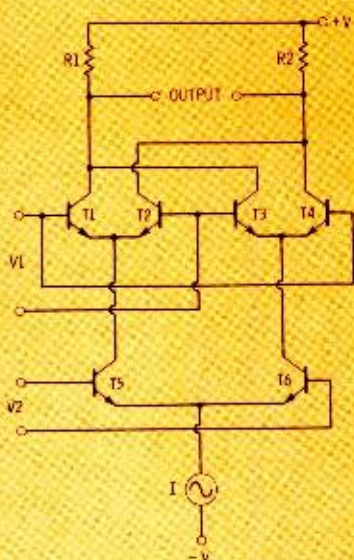

Fig. 1 A doubly balanced modulator.
To illustrate this let me describe two examples. The first one is the doubly-balanced modulator, illustrated in Figure 1. A current source (I) feeds the emitters of transistors T_5 and T_6 . Depending on the polarity and the magnitude of the lower input signal, V_2 , T_5 or T_6 receive a portion (or all) of the current I .
Such a current source is not only useful to bias other circuitry (such as the circuit in Figure 1), but also it has led to a host of new circuits for timing, waveform generation, or integration.